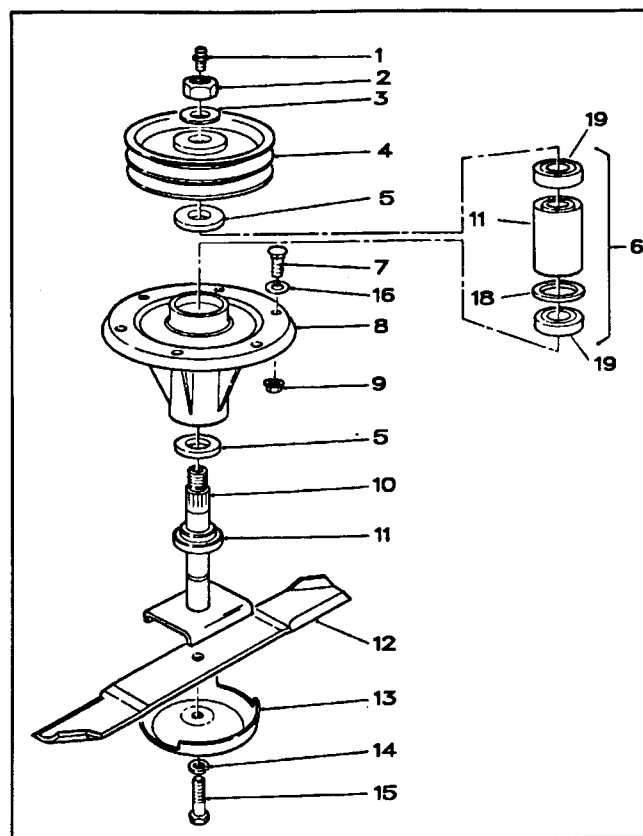

Figure 26
3. Remove flange head screws securing gearbox plate to cutting unit. To separate plate and drive motor assembly from cutting unit, rotate front end of plate toward traction unit (Fig. 26). Tip plate, motor and pulley assembly on its side and remove from cutting unit. Be careful not to bend, twist, kink or damage flexible hydraulic lines.
1. Remove nut and flat washer retaining spindle pulley on spindle shaft. Slide pulley off of shaft (Fig. 26).